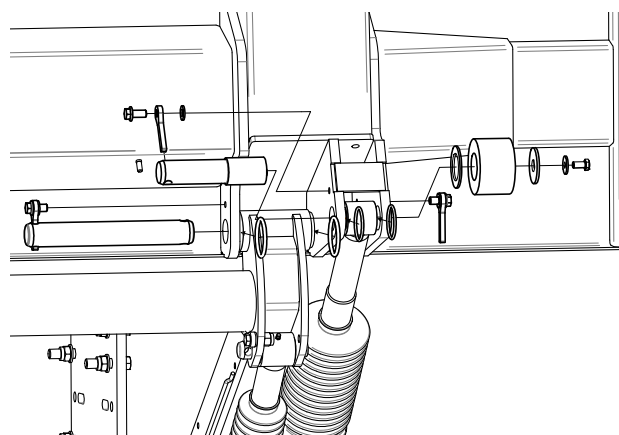

Figure 25. Install one tilt cylinder on the platform
4. Install one of the tilt cylinders on the platform. see Figure 25